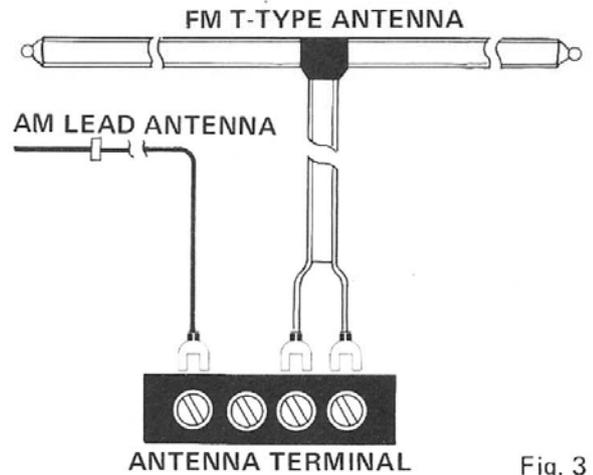

Fig. 3
- If the tuner is to be located in a wooden building and stations are nearby, use the T-type antenna which comes with the TX-500A. As shown in Fig. 3, connect the feeder terminals of the antenna to the FM antenna terminals. Stretch out the antenna proper and secure it to the ceiling or a wall in such a manner that pickup is optimum, as determined by listening to the stations to be received. Refer to "FM RECEPTION" on page 7.